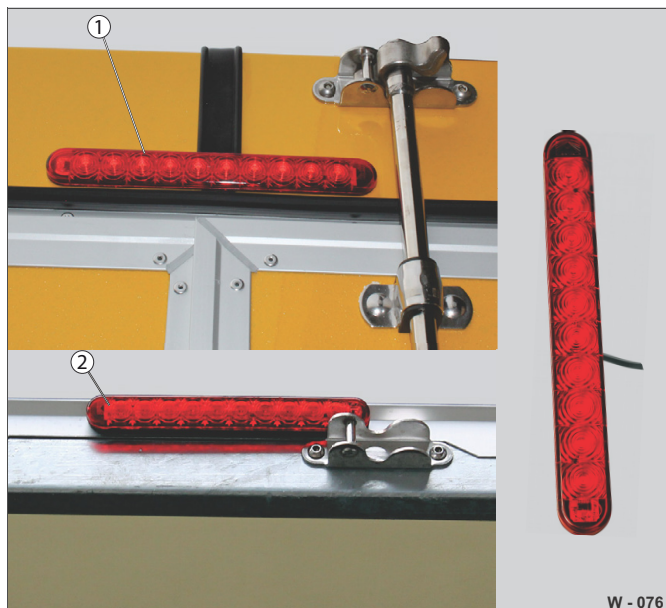

Fig. 77 Brake light strip, separate
- Remove the LED brake strip from the body (Fig. 77 /1 or Fig. 77 /2).